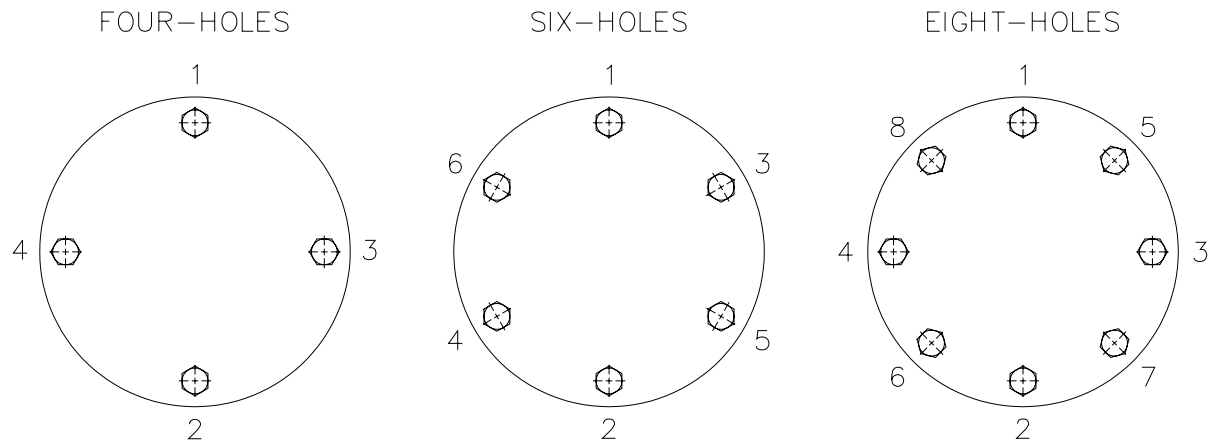

Figure 27. Sequential Tightening
10. With the drive shaft runout within limits, torque seal bolts [2533] in sequential order (Figure 27) to 25% of the value shown in the APPENDIX, Page 96. Repeat this tightening sequence in several steps until the bolts are torqued to 100% of the value shown in the APPENDIX, Page 96. Check the drive shaft runout to be sure it is still within tolerance.